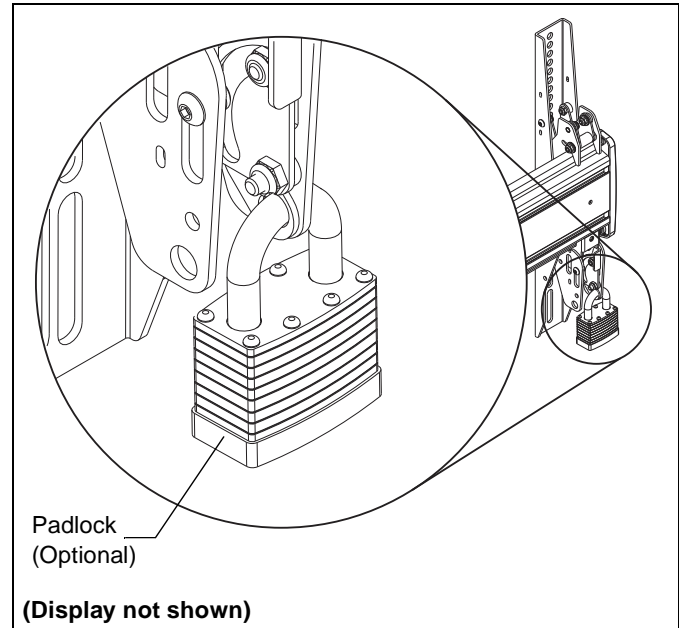

Figure 12
1. **OPTIONAL:** Add padlock (not included) to each interface bracket to lock display to mounting rail. (See Figure 12)